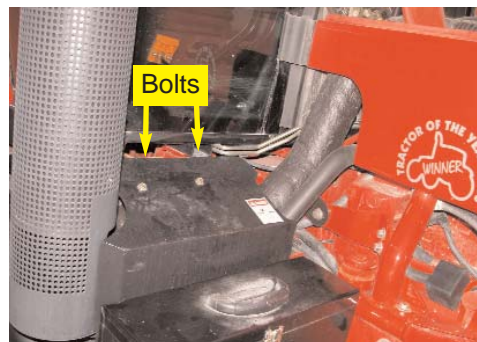

Figure 2a. Mounting location.
- a. Locate the two bolts, in the muffler shield, on the right side of the tractor. (Figure 2a.)